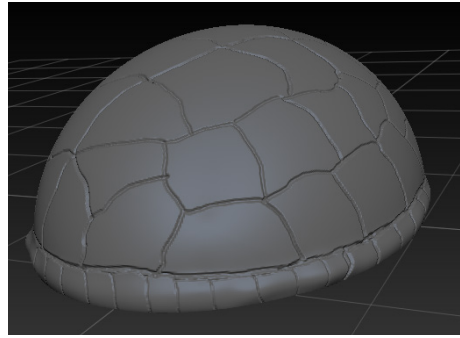

Figure 3-63 Pattern created on the entire lower part of the *turtle shell*
7. Continue creating pattern on the lower part of the *turtle shell*, refer to Figure 3-63.